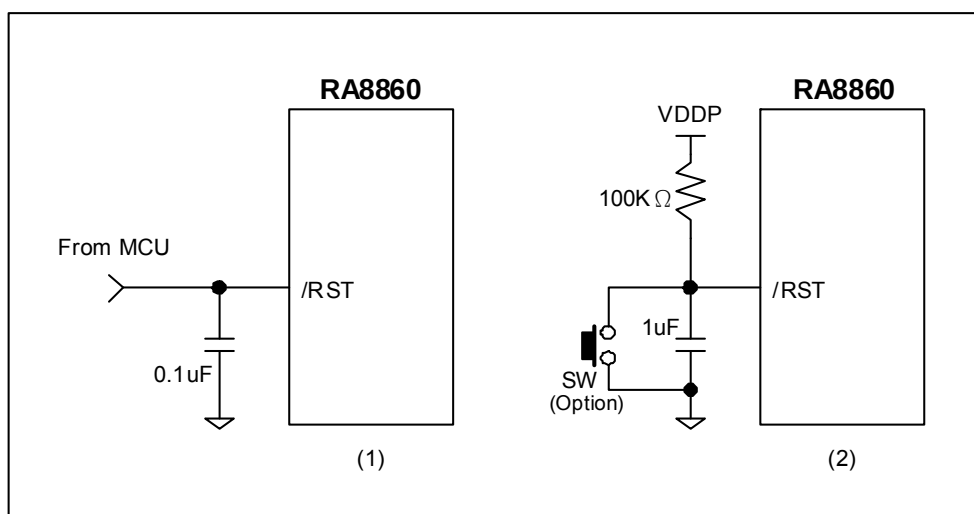

Figure 7-13 : Example Circuit of /RST Pin
The RA8860 requires a reset pulse at least 1ms after power-on in order to re-initialize its internal state. The Figure 7-13 (1) is an example circuit of "/RST" pin. When pin "/RST" connects to Low, or execute Software Reset Instruction, it will initialize internal circuit and the following procedures are occurred.